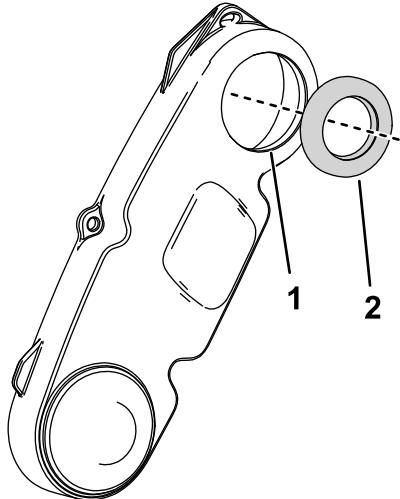

Figure 9
- 6. Lubricate the lip of the reel-drive cover and press the seal flush into the cover (Figure 9).